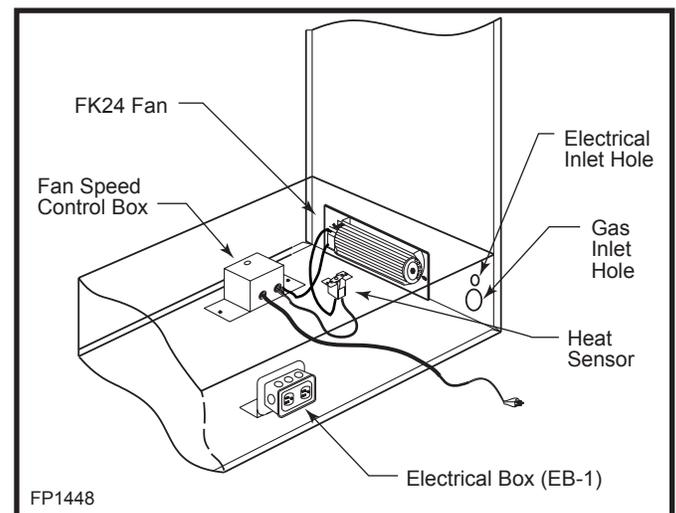

Fig. 51 Fan installation.
2. Install the thermal sensor under the bottom of the firebox, locating it over the two (2) 10 mm studs, and secure it with nuts.
3. Locate the fan speed control unit. This can be fitted behind the lower louvre assembly as in Figure 51, or located remotely in a conveniently located wall mounted electrical box. Remote location of the speed control will require suitable extension of the component wiring.
Should this fan require servicing or repair, the power supply must be disconnected. For rewiring of any replacement parts, refer to **Figure 51**.